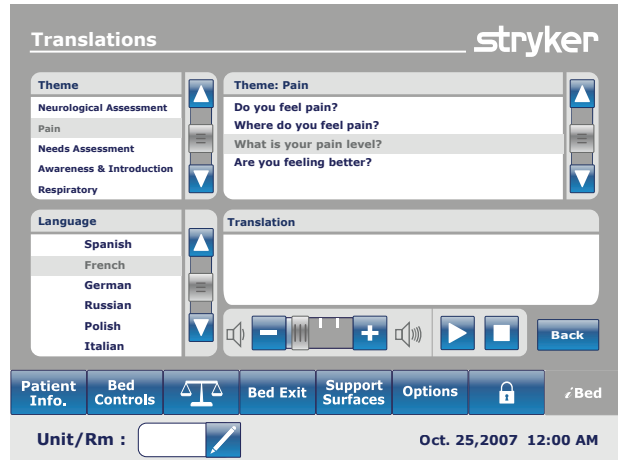

Figure 10.14
When the “Translation” button is pressed on the iBed screen, Figure 10.14 will be displayed.
**Note:** If the iAudio option is not equipped on your bed, then the audio controls buttons will not be displayed in Figure 10.14